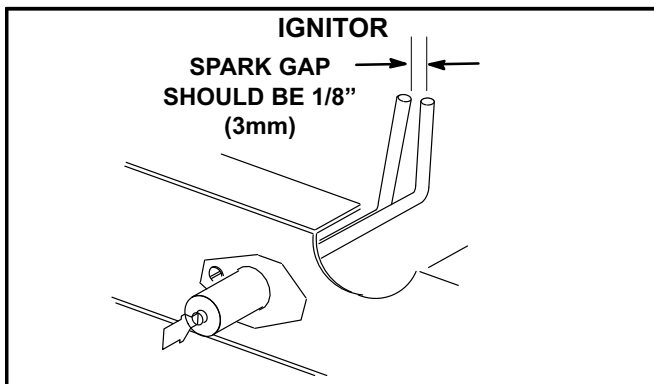

FIGURE 28
- 5- Locate the ignitor under the right burner. Check ignitor spark gap with appropriately sized twist drills or feeler gauges. See figure 28.